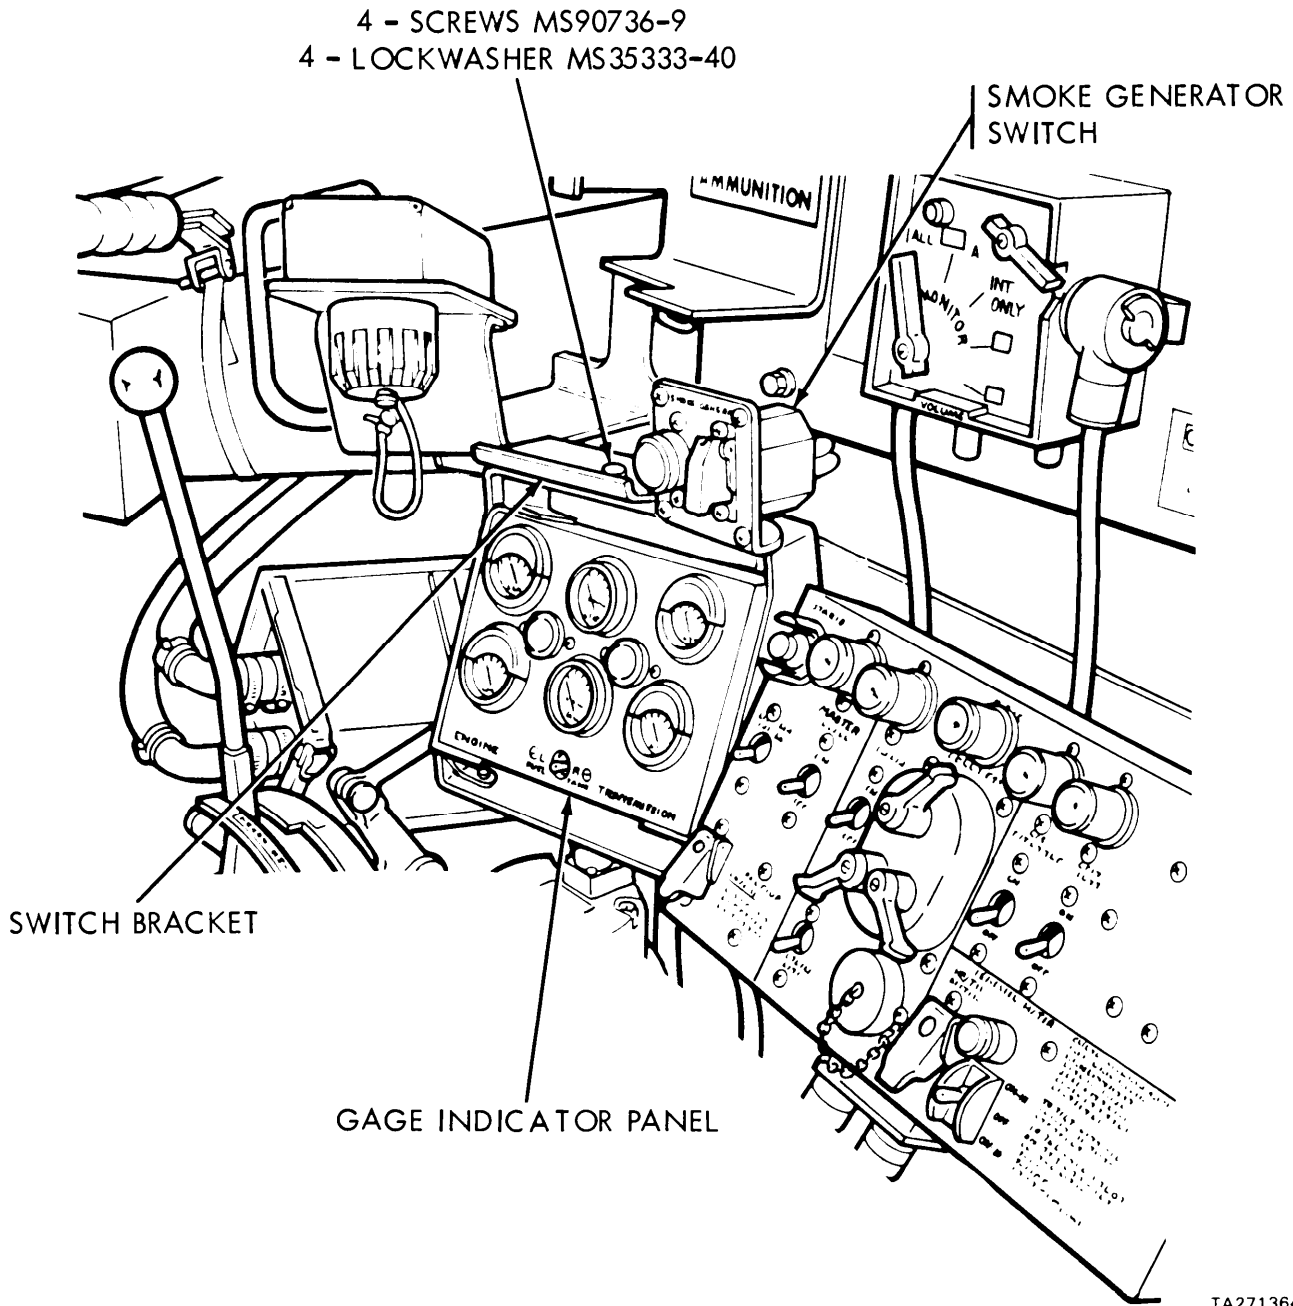

Figure 29. Smoke Switch Bracket Attached to Gage Indicator Panel
(3) Connect harness 12270526 plug connector to smoke generator switch assembly receptacle connector and attach switch bracket along with gage indicator panel-to-panel mounting bracket with four screws MS90726-9 and lockwashers MS35333-40 (figure 29).